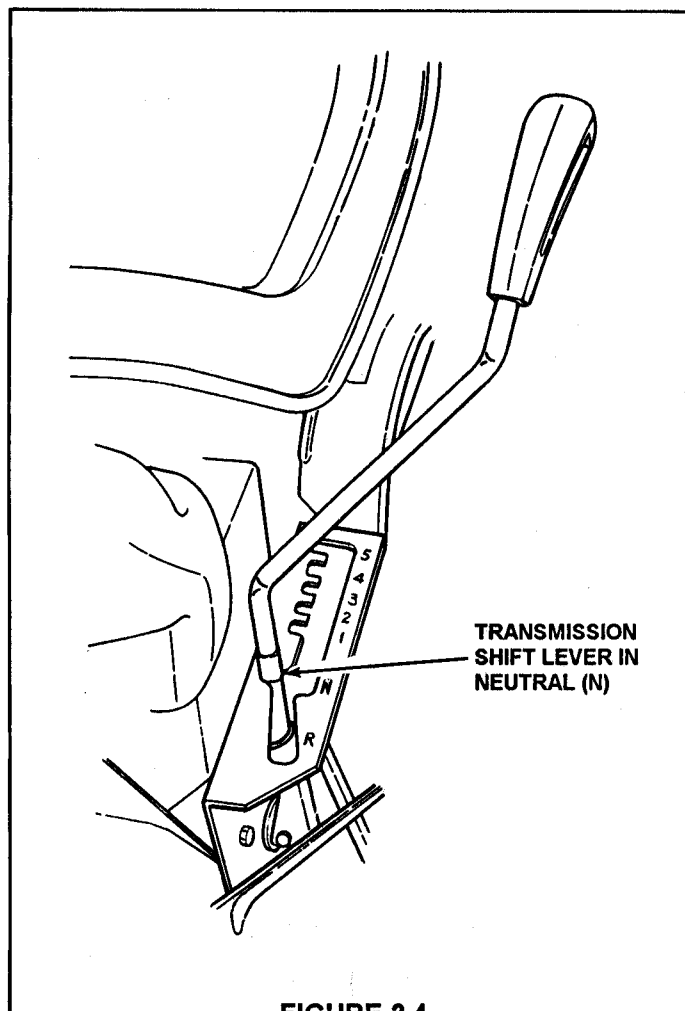

FIGURE 2.4
2. Move the transmission shift lever to the neutral (N) position as shown in Figure 2.4.